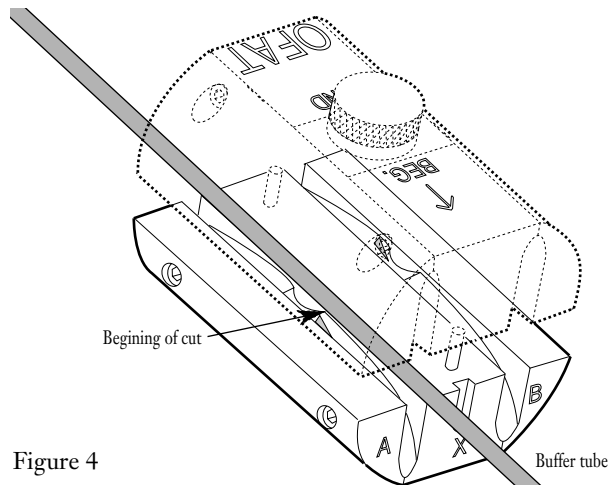

Figure 4
5.2 Slide the buffer tube to be accessed into the appropriate groove at the point where the cut must begin, as indicated by the "BEG." line engraved on top of the tool (Figure 4).